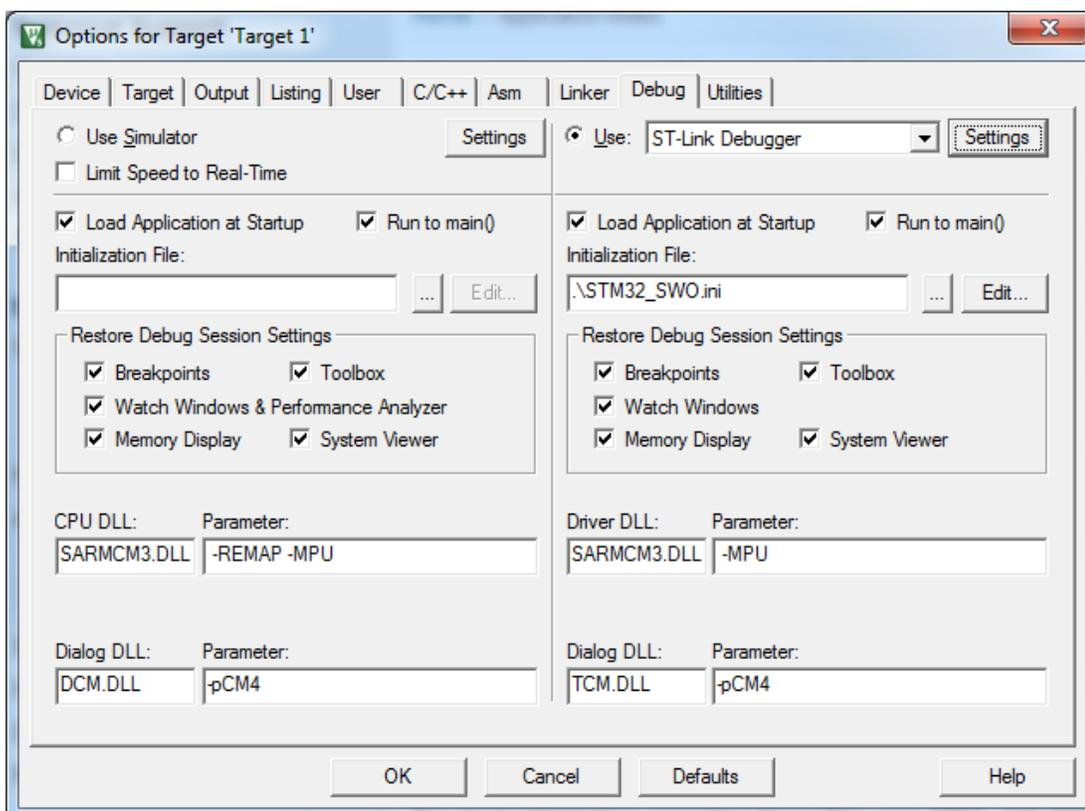

Figure 2. Select Initialization File: STM32_SWO.ini
2. Copy the information on page 3 of this assignment into a plain text file STM32_SWO.ini, put that in your project directory, and then on the Debug tab (see Figure 2 on the next page) select this as the debugger Initialization File. (Or, you can add this text to your own debugger initialization file.)